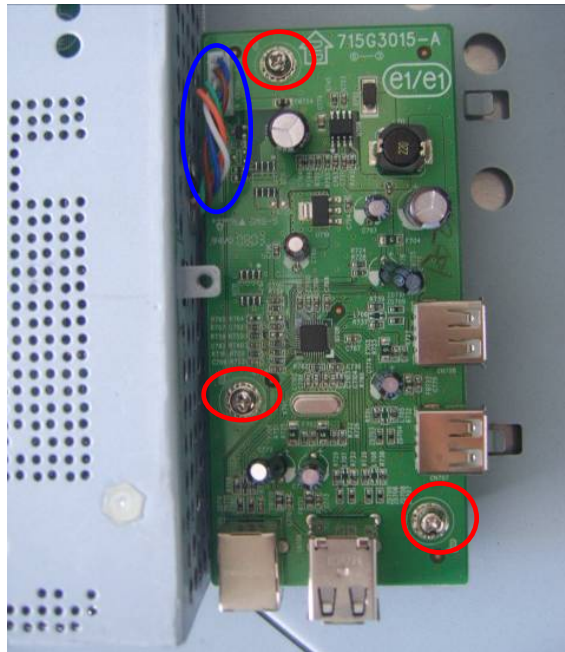

Fig 8
4. Remove the screws remarked in red and release the connector remarked in blue to remove the USB board.(Fig 8)